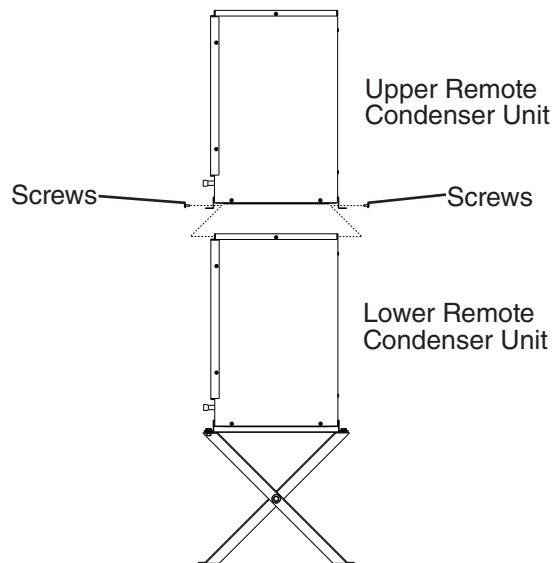

Fig. 11
- 2) Place the upper remote condenser unit on top of the lower remote condenser unit. See Fig. 11.